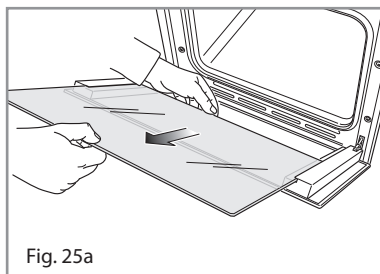

Fig. 25a
- Gently pull out the inner pane of glass (Fig. 25a).